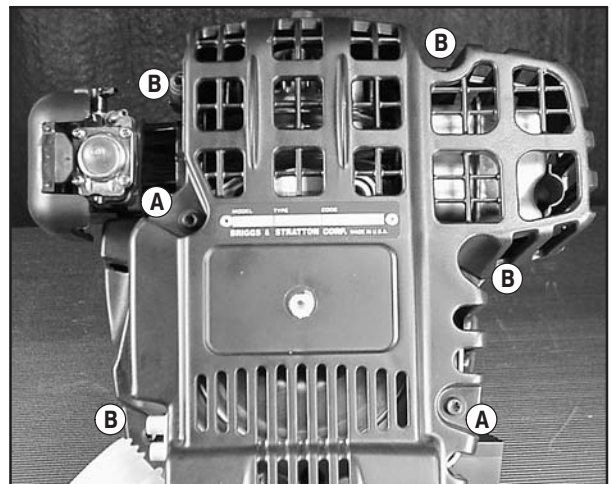

Fig. 2
2. Remove 2 machine screws (A) and 4 self threading screws (B) from cylinder shield side, Fig. 2.